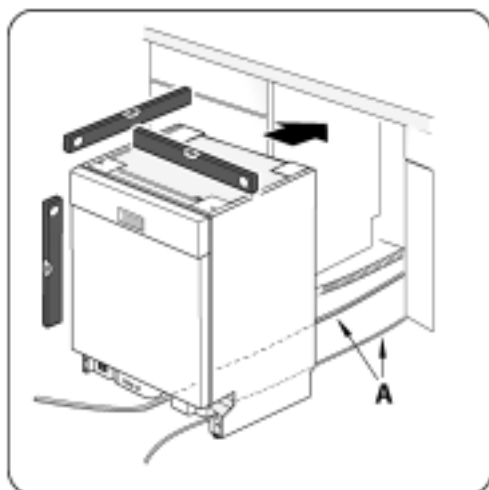
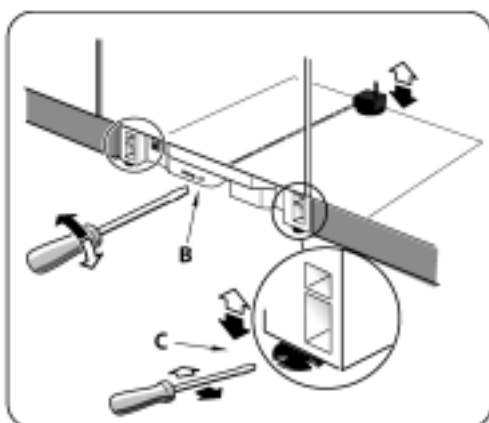
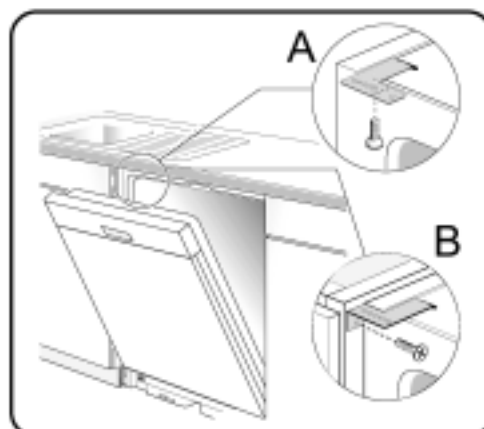

Figure 19/Ilus. 19
Figure 20/Ilus. 20
Figure 21/Ilus. 21
- 2) Position the dishwasher close enough to the enclosure so that you can run the dishwasher drain hose to the under sink drain connection. Make certain that the hot water supply line and the electrical supply cable are in their channels under the dishwasher base, as shown in Figure 19, letter A.
- 4) Perform a level check as shown in Figure 19. Adjust the rear leveler by turning the center screw at the front of the dishwasher, as shown in Figure 20, letter B. Turning the screw clockwise raises the rear of the dishwasher. Adjust the front levelers by turning them with a screwdriver, as shown in Figure 20, letter C. Turning the levelers to the right raises the dishwasher. If additional height is needed, shims may be added under the leveler feet.
Drive the mounting screws through the holes in the mounting brackets, as shown in Figure 20, letter A for Top Mount, or as shown in Figure 21, letter B for Side mount.